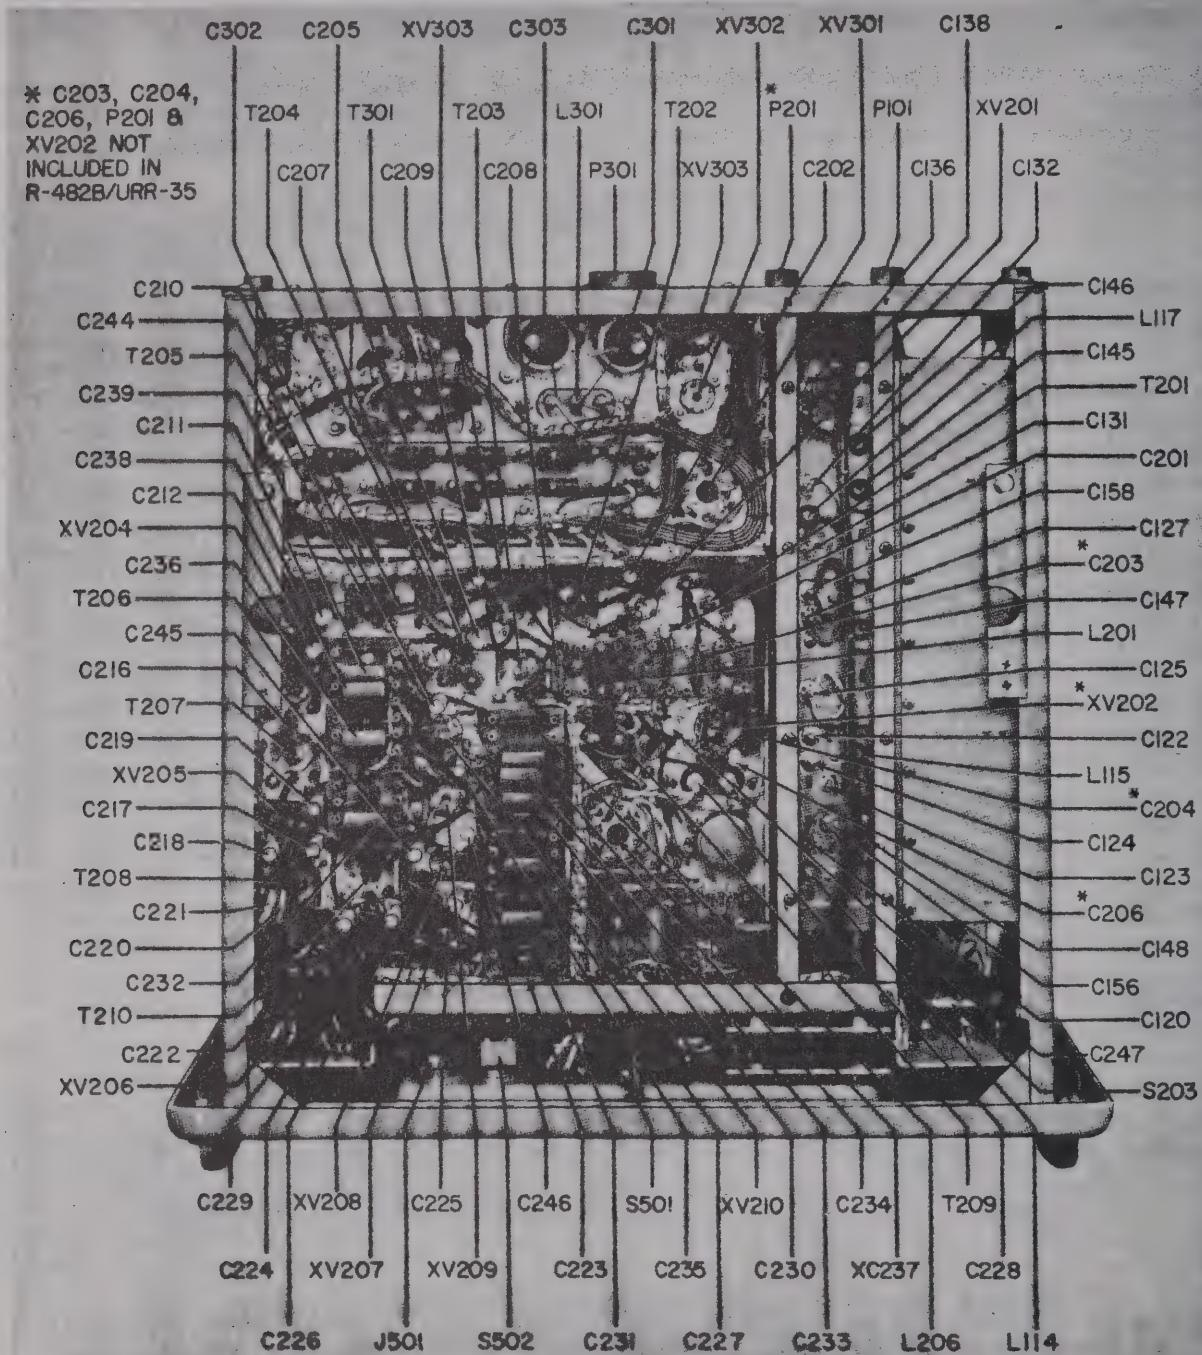

Figure 7-15. Radio Receiver R-482/URR-35, Bottom View—Identification of All Components Except Resistors and Terminal Boards
(1) Set up, near the receiver, a heterodyne frequency meter such as a Navy Model LM or LR series, which will cover the range of 10-18 megacycles, or the range 20-35 megacycles, and couple it, through a d-c blocking capacitor, to capacitor C123, located on the oscillator side of the preselector; see figure 7-15.
(2) Set the tuning dial of the receiver to 232 megacycles, throw the CRYSTAL-MANUAL switch to MANUAL, and install any crystal.
of choke L301; see figure 7-15.
(1) Unsolder the wiring from the terminals of T301; see figure 7-15. Identify each wire in some manner if there is any likelihood that the performed arrangement of these wires will be disturbed before connections are restored.
(2) Remove the nuts from the four transformer-mounting studs.
(3) Unfasten the rear panel by removing: